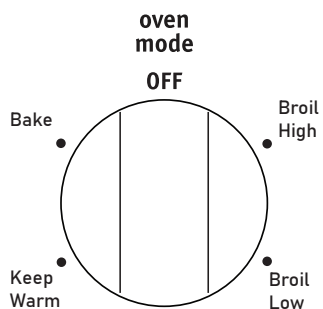

Figure 9: Oven mode knob
3. Turn the oven mode knob to the bake position (Figure 9).
1. Place the offset oven rack while the oven is still cool. Turn the oven mode knob to the Broil Hi position (Figure 9).